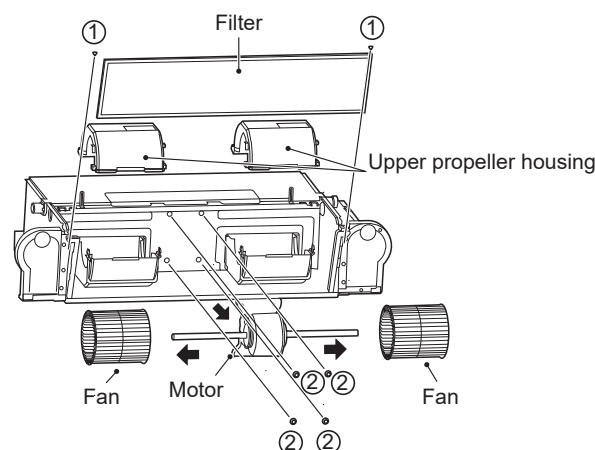

Figure 4-5 Removal of filter, upper volute and motor screws
- As shown in Figure 4-5, remove screws ①*2 to take the filter out.